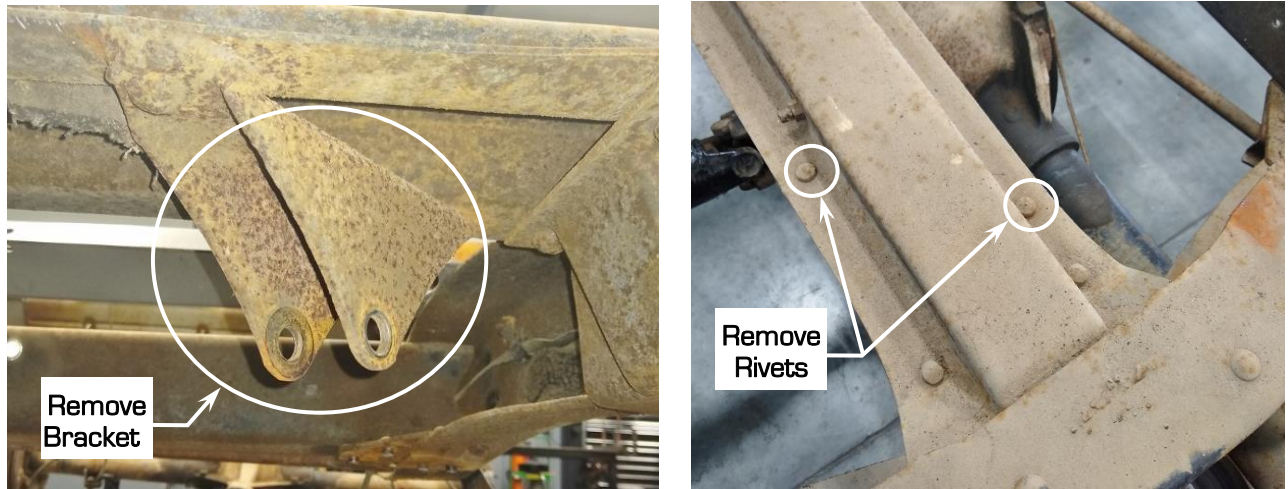

Figure 2 - Remove Rear Axle Bump Stop Bracket
4. Remove the upper shock mounts from the cross member by removing the two rivets holding the brackets in place on both sides of the cross member (Figure 2). **NOTE:** DSE recommends cutting the rivet from the top side.